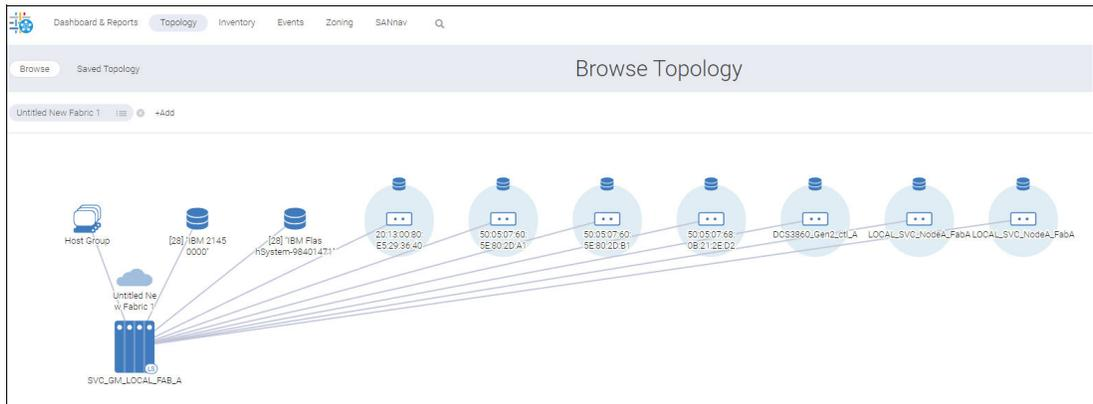

Figure 5-93 Showing individual storage
- b. Select the devices that you want to show individually in the topology and click **OK**. The selected items are removed from the host group and are shown individually in the topology (Figure 5-93).